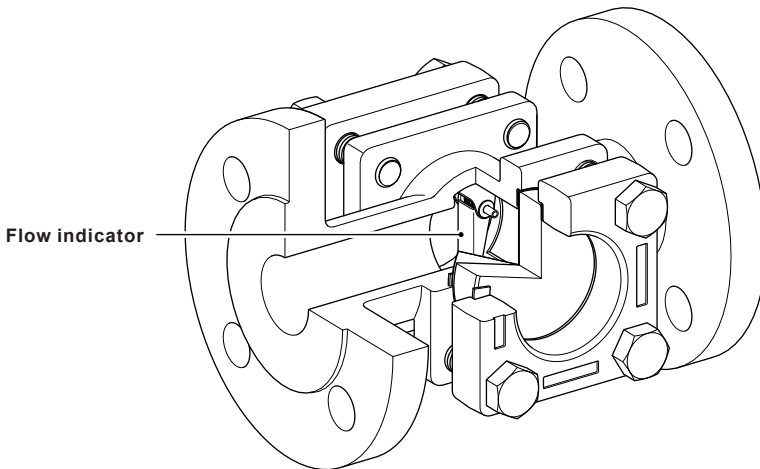

Fig. 4
- After isolation unscrew the cover bolts (5) and remove the old gaskets (4) and windows (3).
- Refit new gaskets and windows, ensuring that a gasket (4) is fitted to either side of each window (3). If Mica protection is changed fit the Mica protection between the glass and the gasket as shown in Fig. 4.